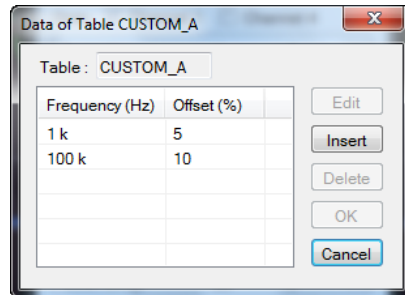

Figure 2-75 Custom FDO table data dialog
- 5 The selected custom FDO table data dialog is displayed as shown in Figure 2-75.